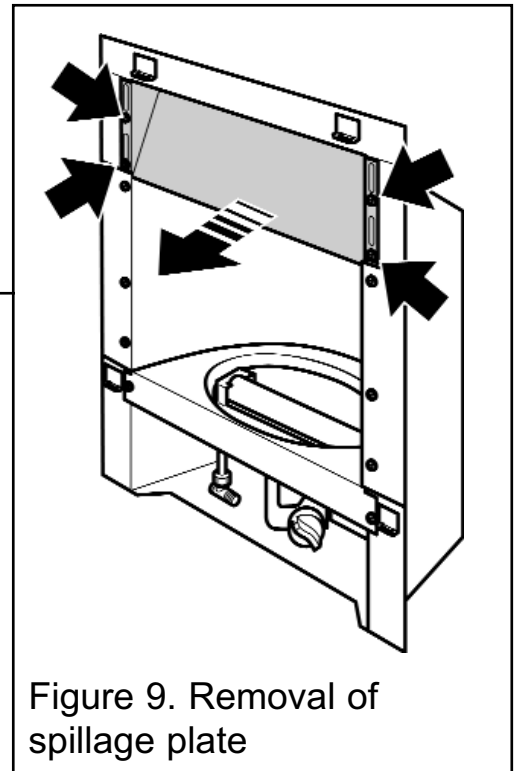

Figure 9. Removal of spillage plate
1. Detach the spillage plate from the hotbox by removing the four screws (See figure 9).